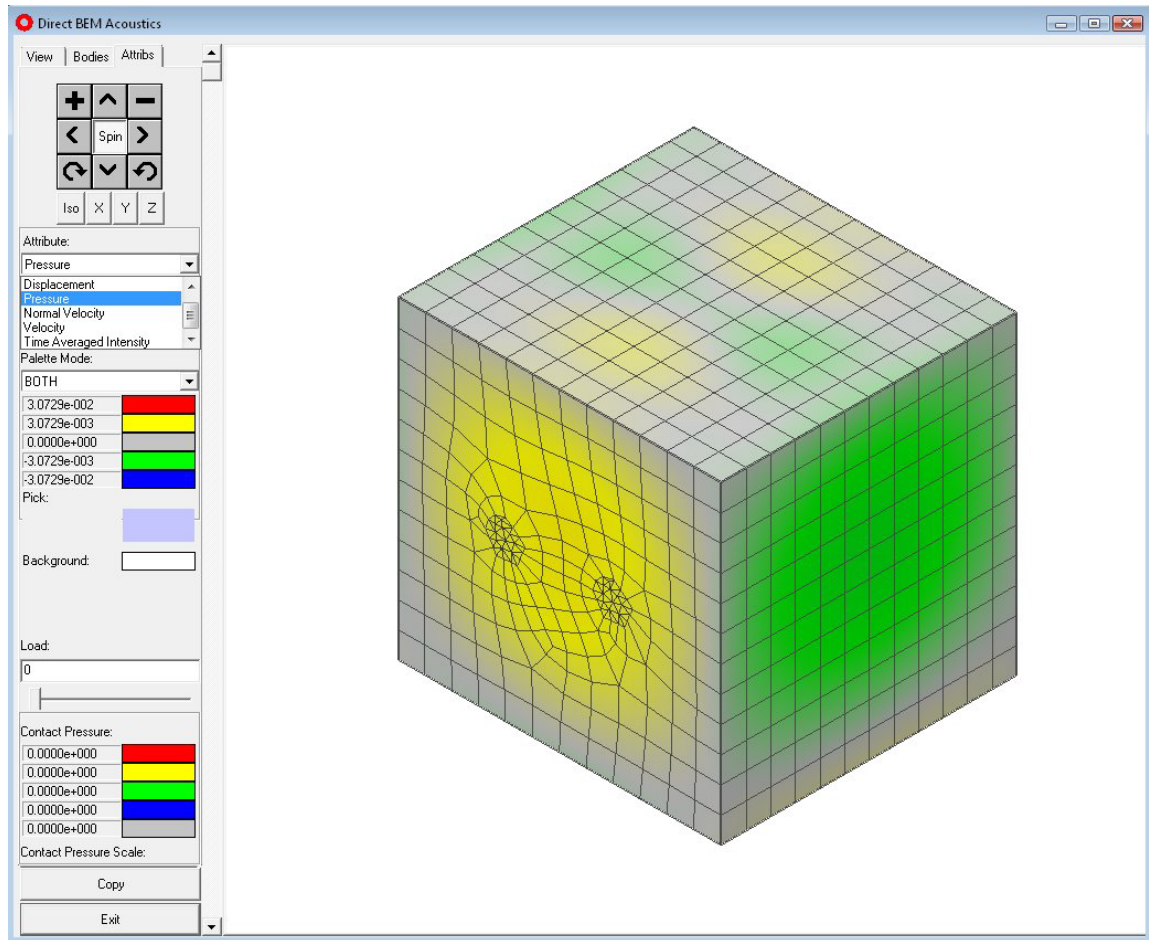

Figure A.27 IGlass viewer showing sound pressure distribution at 760 Hz.
A.4.3.4. *iglass.cgl* Iglass files are post-processing data files created by Coustyx to visualize the acoustic analysis results. Refer to Figure A.27.